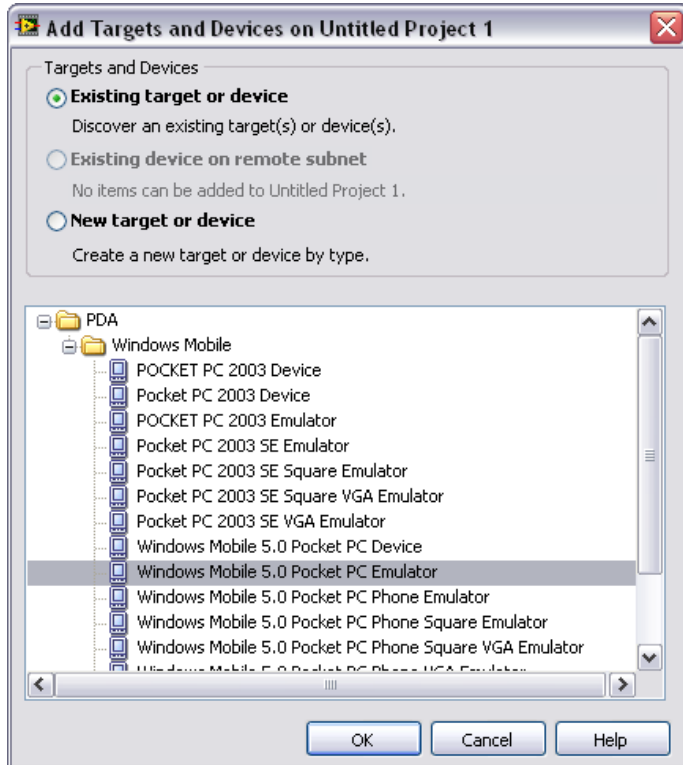

Figure 3. Adding a New Device
- Expand the **PDA** folder and select **Windows Mobile 5.0 Pocket PC Emulator** as shown in Figure 3.